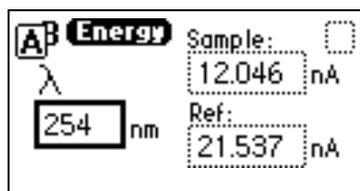

Figure 3-14 Sample and Reference Energy Diagnostic Display
2. Press **DIAG 2, Sample & ref energy**, and record the sample and reference energies for 230 nm for later comparison. The Sample and Reference Energy Diagnostic display appears (Figure 3-14).